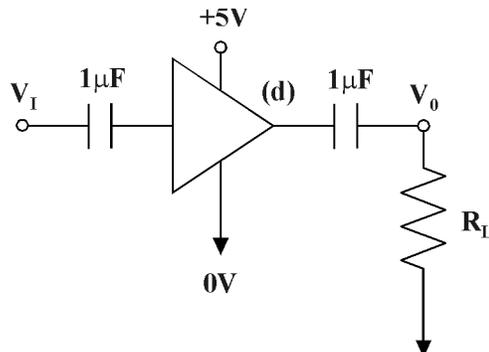

Figure 2: Measuring the Transconductance and Output Impedance of the Amplifier
1. Apply a sinusoidal voltage V_I to the input of the amplifier, coupled through a 1 µF capacitor (with the voltage sufficiently low so that the output does not saturate). (See Figure 2.)